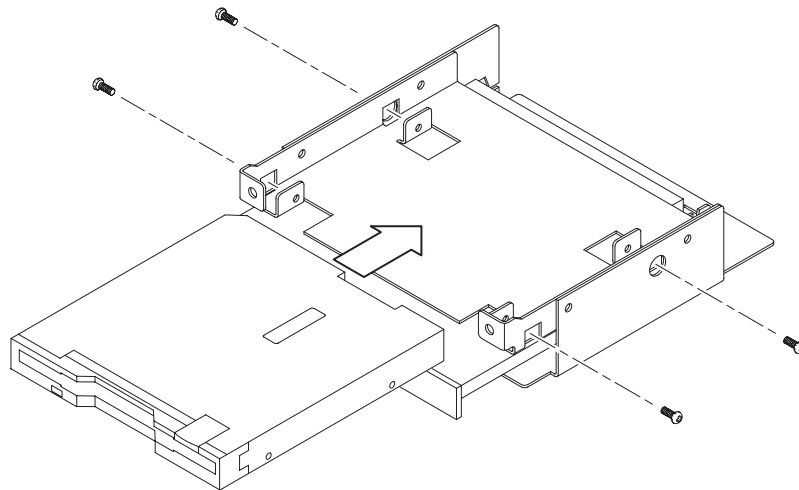

Figure 6–12: Chassis screw locations for the floppy disk drive
2. Lift the floppy disk drive up off the chassis as shown in Figure 6–12.
1. Place the replacement floppy drive onto the chassis / CD drive as shown in Figure 6–12.